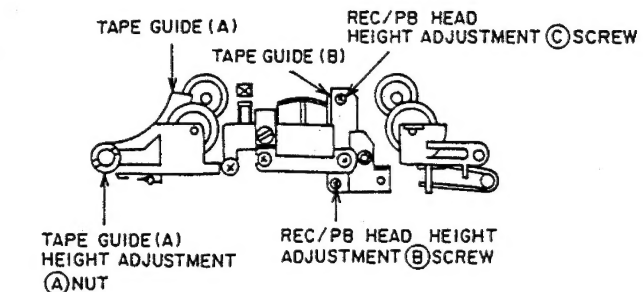

Fig. 4-6
- 1) Remove the TAPE GUIDE (A) HEIGHT ADJUSTMENT ① SCREW (Refer to Fig. 4-6), then remove the SUPPLY PINCH ROLLER BLK.